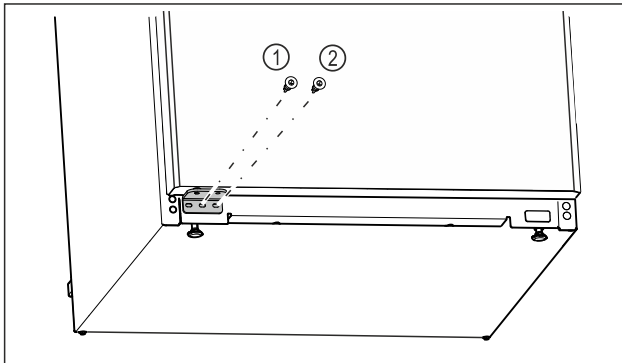

Fig. 25
- ▶ Tighten the middle screw of the swap bearing block Fig. 25 (1) with a Torx 20 screwdriver.
- ▶ Tighten the inner screw of the swap bearing block Fig. 25 (2) with a Torx 20 screwdriver.